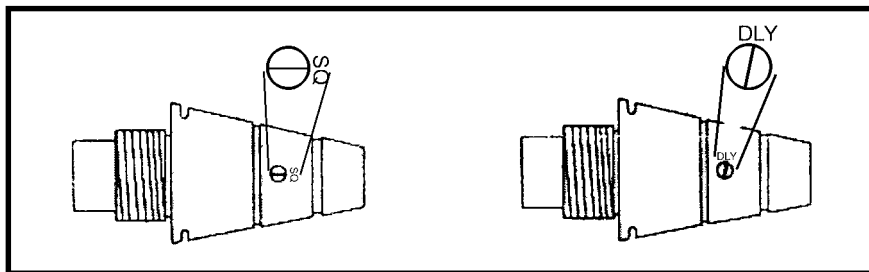

Figure 7-19. Setting the M935 PD fuze.
a. **M935 PD Fuze** (Figure 7-19, page 7-38).
(1) Superquick setting.